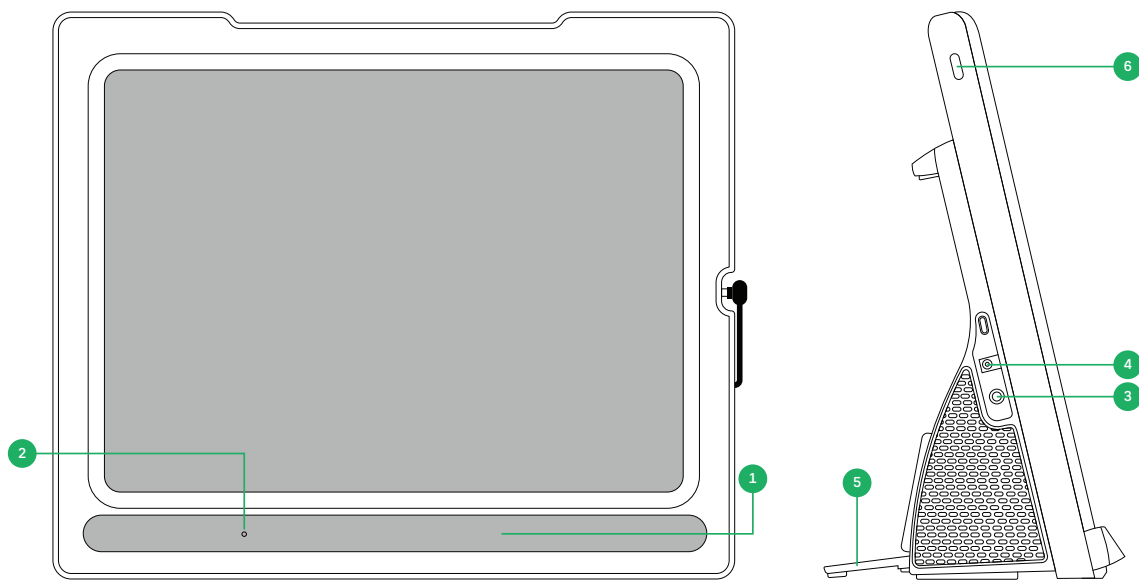

Figure 3.1 Front and Right Side
1. Press the power button on the iPadOS Device. (Position 6 in *Figure 3.1 Front and Right Side*)
17. Press the power button on the iPadOS Device to restart the device. (Position 6 in *Figure 3.1 Front and Right Side*).